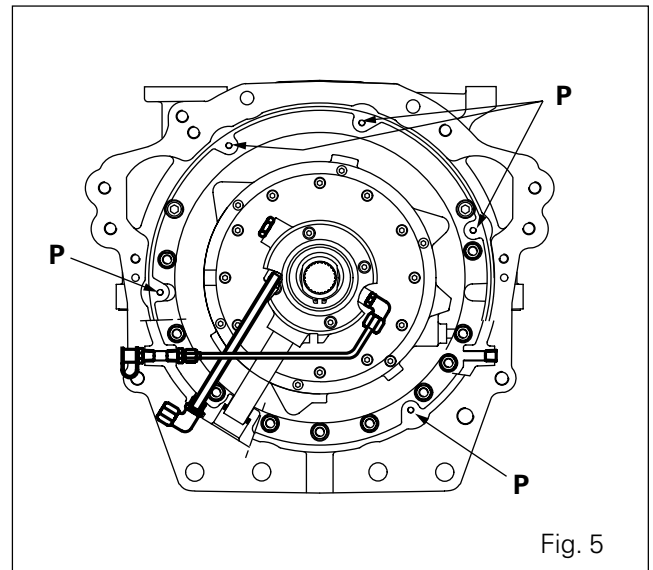

Fig. 5
20. Coat surrounds P of the tapped holes with Loctite 5206. (Fig. 5).